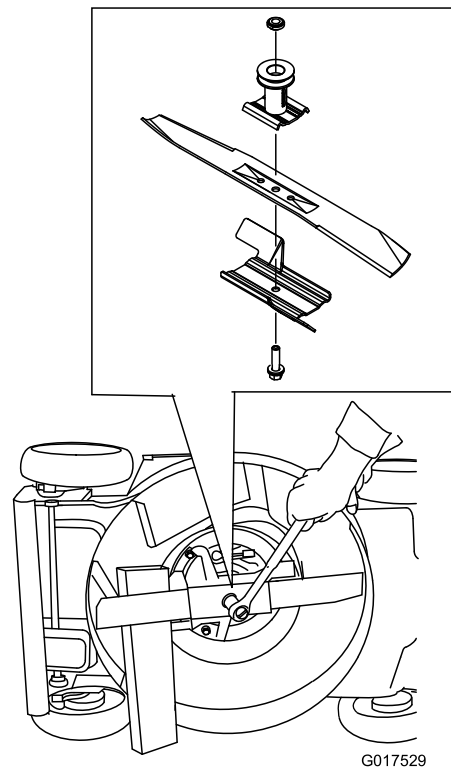

Figure 29
3. Use a block of wood to hold the blade steady (Figure 29).